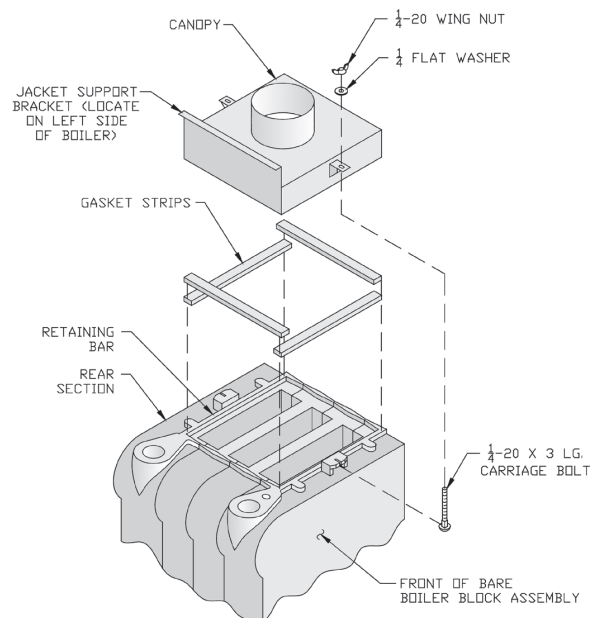

Figure 4: Boiler Canopy Installation
with gasket and hardware provided to ensure gas tight seal — see Figure 4.
1. Cut two (2) strips 13 3/4" long from the roll of gasket insulation. Place one (1) strip across the top of the front section and the other across the rear section as shown in Figure 4.
2. Cut the remainder of the roll into two (2) equal pieces. Place each piece along the sides, allowing the ends to overlap the front and rear pieces.
NOTICE Jacket support bracket must be facing left side of boiler - see Figure 4. Jacket will not fit if bracket is not oriented correctly.